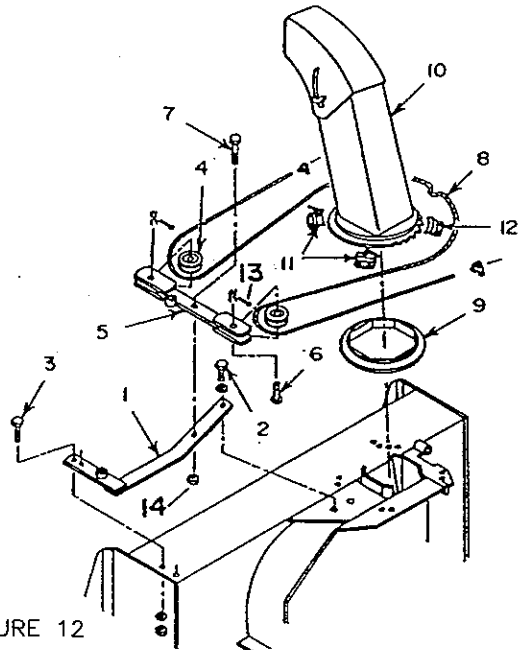

FIGURE 12
- a) Attach longest flatbar end of rotation arm support (fig.12, item 1) on the underside of the chute base using a 5/8" x 1" bolt (fig.12, item 2) and lockwasher. Secure other end to collector housing using two 3/8" x 1" bolts (fig.12, item 3), lockwasher and nuts with bolt heads on the top side. Torque the 5/8" bolt to 150-180 lbs/ft., and the two 3/8" bolts to 35-42 lbs/ft.
- b) Assemble pulleys (fig.12, item 4) in rotation arm (fig.12, item 5) using two 5/8" x 1 1/8" pins (fig.12, item 6) with the pin heads on the underside. Secure with two 1/8" x 1 1/4" cotter pins (fig.12, item 13).
- c) Place rotation arm (fig.12, item 5) on arm support with the welded sleeve toward the front of blower and away from chute base. Insert a 5/8" x 2 1/4" bolt (fig.12, item 7) through rotation arm and thread through arm support. Tighten securely and loosen 1/8 of a turn. Lock bolt on underside of arm support using a 5/8" nut (fig.12, item 14).
- d) Insert steel cable (fig.12, item 8) through the two small holes in chute base from the inside with equal length on both side.
- e) Install plastic anti-friction insert (fig.12, item 9) on blower chute base. Only one position provides a perfect fit.
- f) Place chute (fig.12, item 10) over plastic insert. Adjust so that chute opening is straight forward and the two small holes in chute base are on the right hand side.
- g) Install the two retaining plates with cable guide (fig.12, item 11) on left hand side of chute base using four 1/4" x 3/4" bolts, lockwashers and nuts (fig.12, items 6-7-8-). Retaining plate guides must be pointing away from each other. Install the two standard retaining plates (fig.12, item 12) on other side of chute using four 1/4" x 3/4" bolts, lockwashers and nuts. Torque the eight 1/4" bolts to 9-11 lbs/ft.